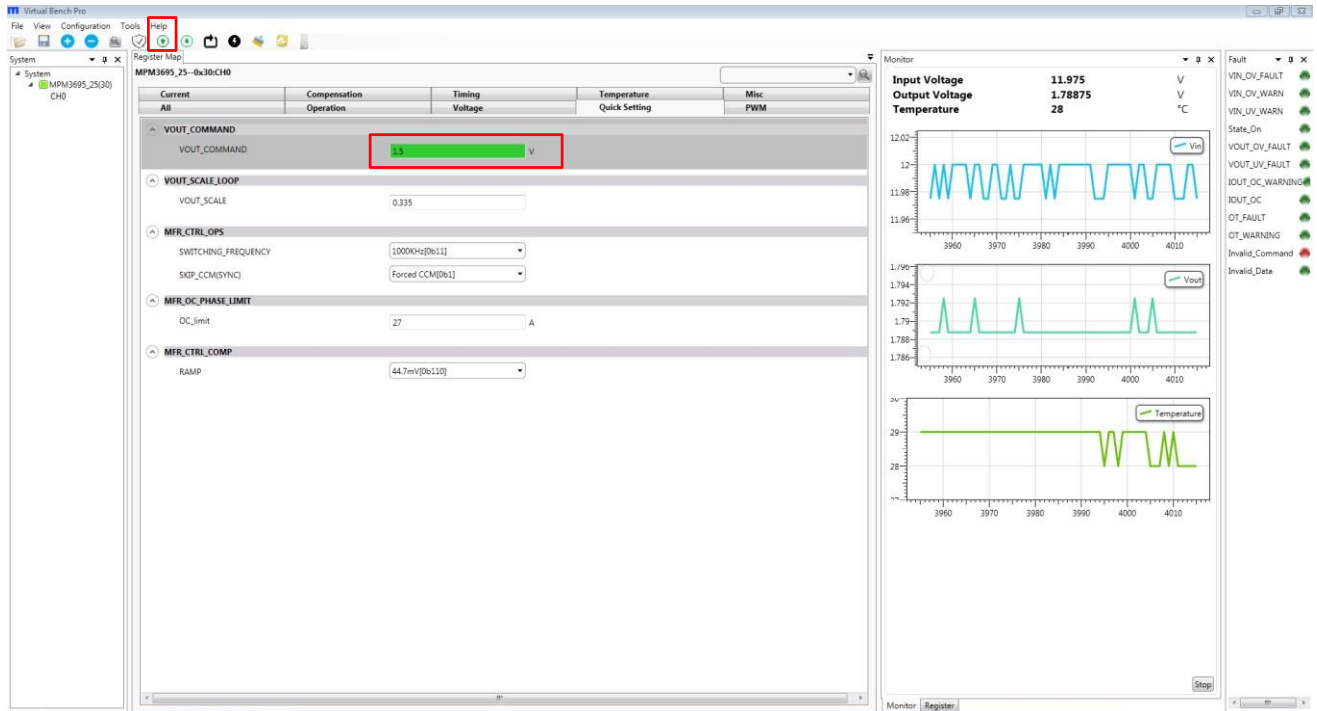

Figure 9: Write Values Steps Shown in Table
- Click the “Write to chip” button to write values to the register (see Figure 9).